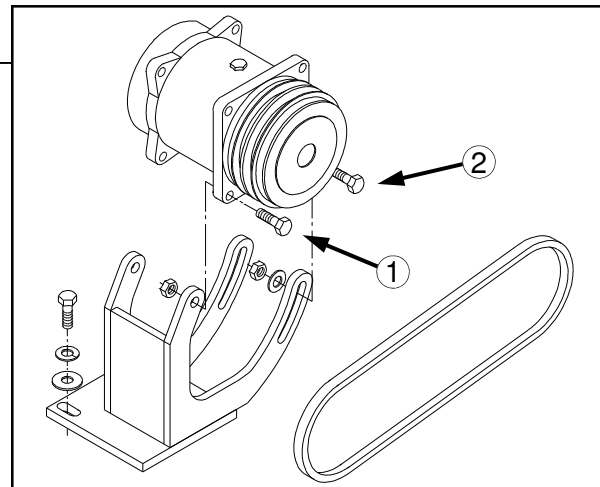

FIG 7.94-4
A/C COMPRESSOR BELT– To tighten air conditioner compressor belt, loosen the two pivot bolts (fig. 7.94-4, item 1) and the two slide bolts (fig. 7.94-4, item 2). Using a suitable prying tool, adjust tension on the belt to the desired tautness. While maintaining tension, re-tighten all four bolts. Inspect belt every 250 hours.